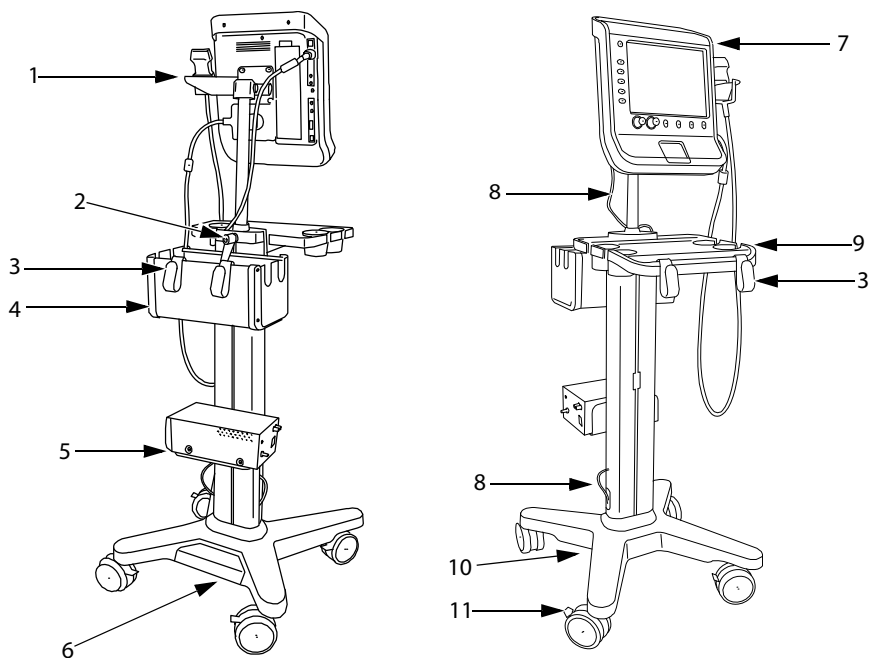

Figure 1 S Series Stand: Back and Front Views (Shown with Optional Printer, Basket, and Tray)
- ❖ Connect the following cords. See Figure 1 on page 3.
- DC power cord (A)
- System AC power cord (K)